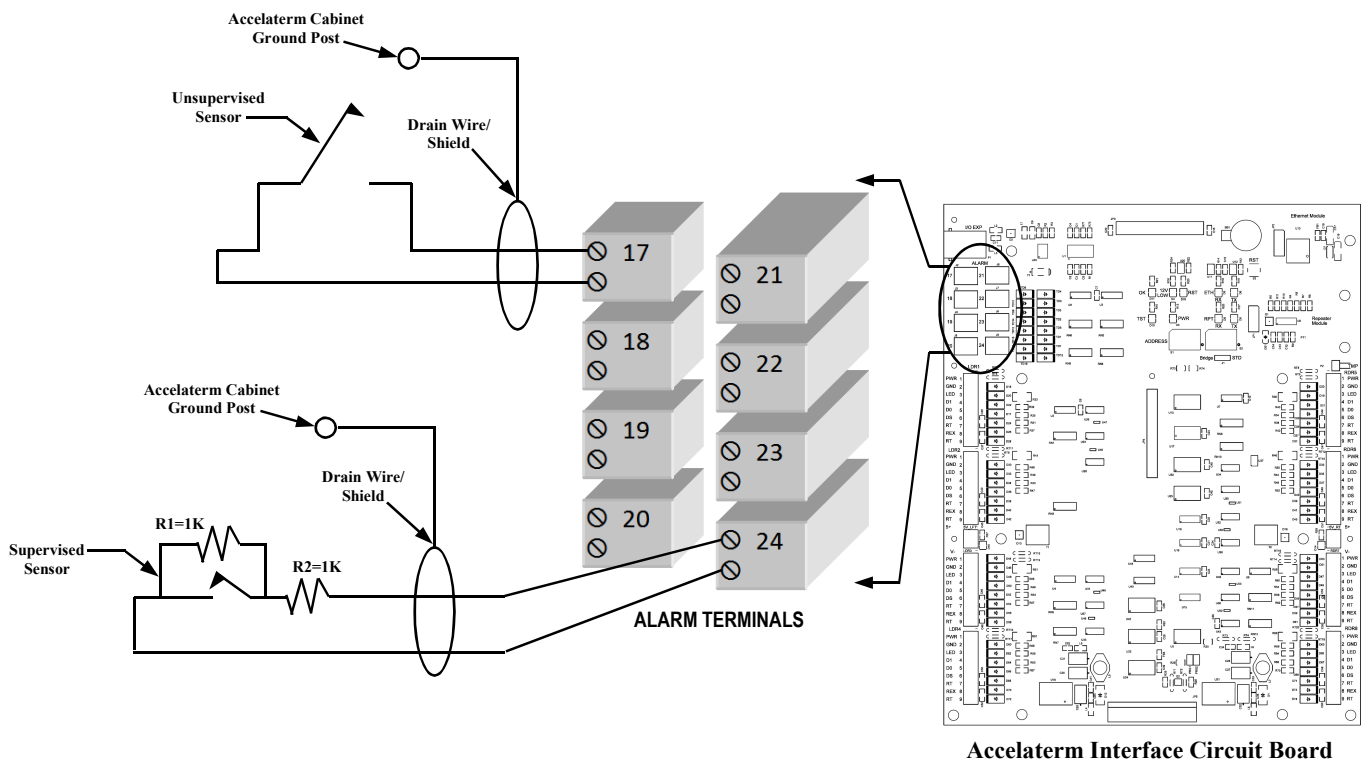

Figure 15 - ALARM Terminals - Unsupervised and Supervised Alarm Connections
Eight accessory supervised alarm inputs are located on the Accessory ALARM terminal strip located on the upper left corner of the Accelaterm circuit board (see Figure 15). These alarm inputs may be used for dry contact type inputs (unsupervised) or supervised alarms. Labeled 17 through 24, they are positioned on two levels to simplify wiring.
2. Install R 1 in parallel with the alarm contacts (see Figure 15).